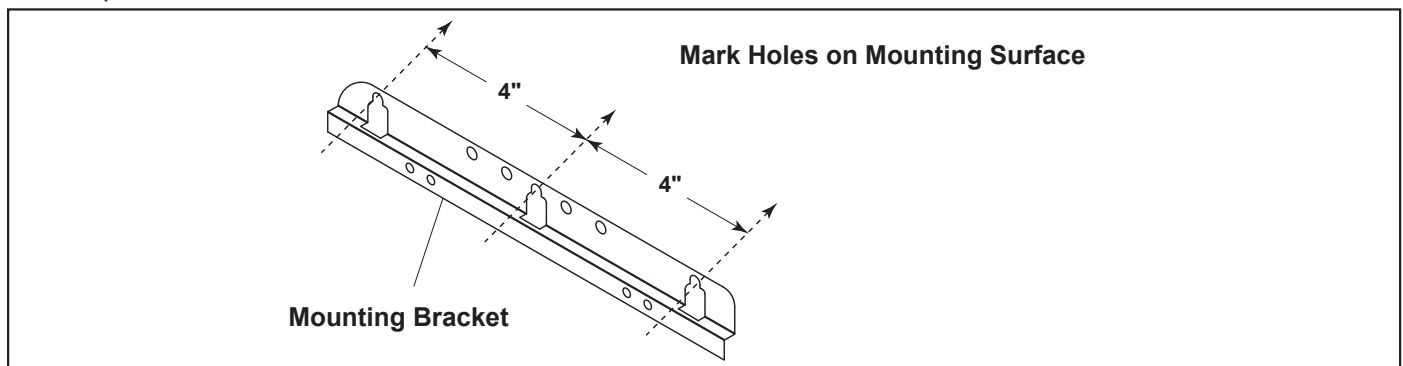

Figure 7. Mark Holes using Control/Power Center Mounting Bracket
3. Using the top mounting bracket as a guide, mark three (3) holes on the mounting surface where the power center will ultimately reside (see Figure 7). Drill the holes in the mounting surface.